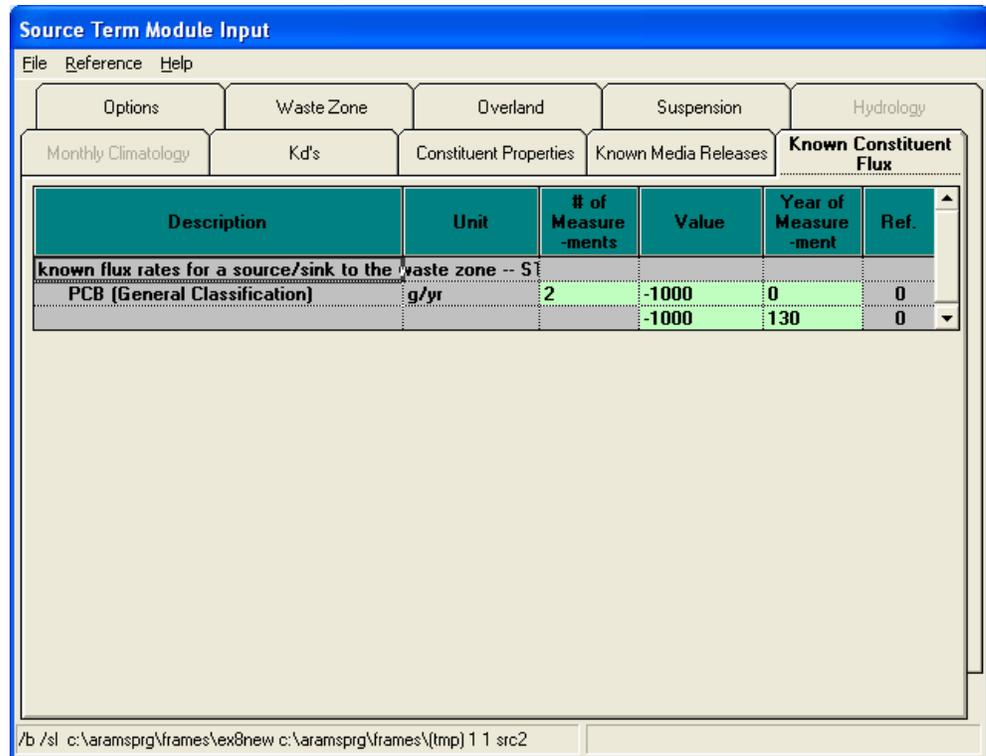

Figure 18. MEPAS Source in Soil Model – Known Constituent Flux tab
- *Known Constituent Flux Tab – Figure 18*